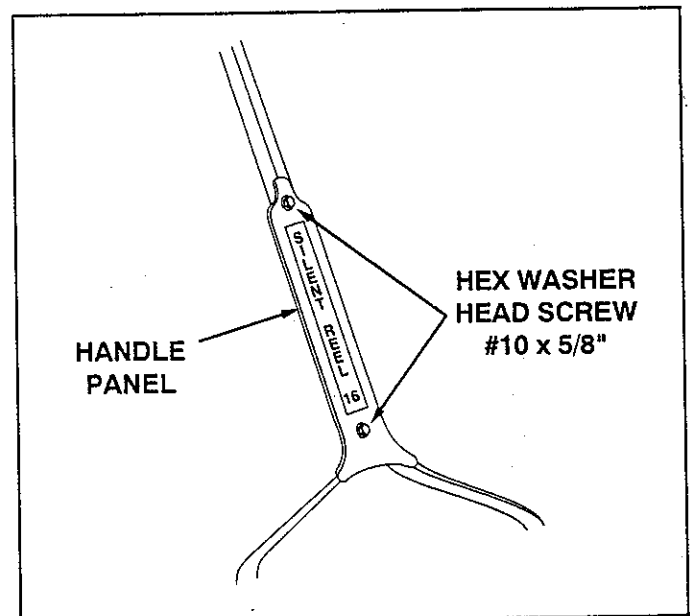

FIGURE 5
7. Place the handle panel in position over the handle. Secure the bottom with #10 x 5/8" hex washer head screw that goes through the handle panel and into the spacer. Do not tighten. See figure 5.